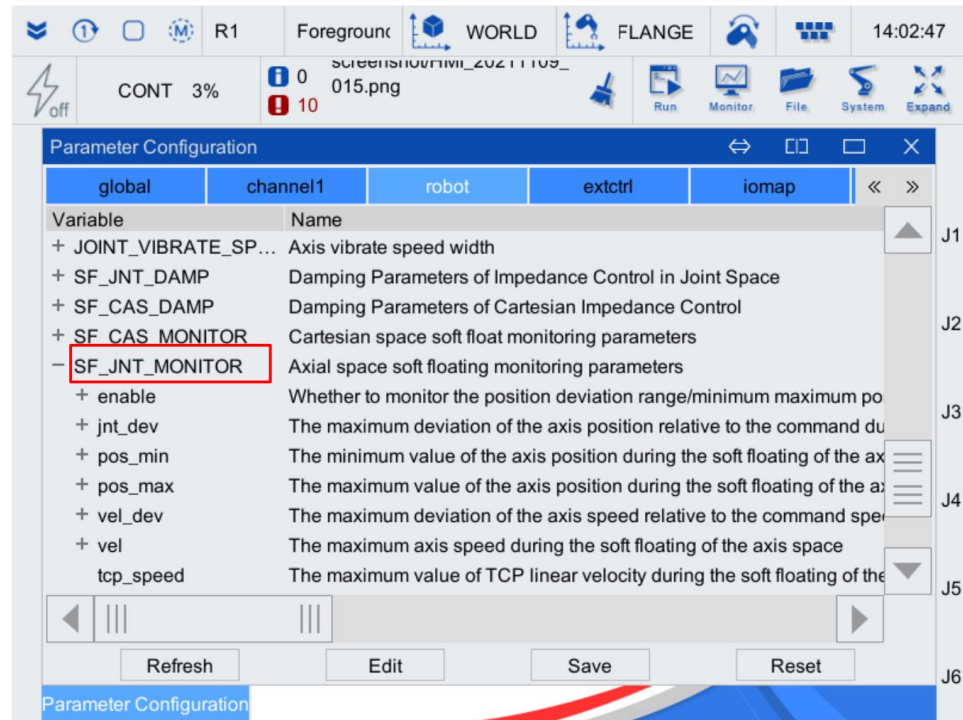

Figure 4-16 Axis space soft float monitoring parameter configuration interface
Step2. In the [Robot] interface, click the [+] before [SF\_CAS\_MONITOR (Axis space soft float monitoring parameter)] to display the parameters that need to be configured. As shown in Figure 4-16, the parameter description is shown in Table 4-8.